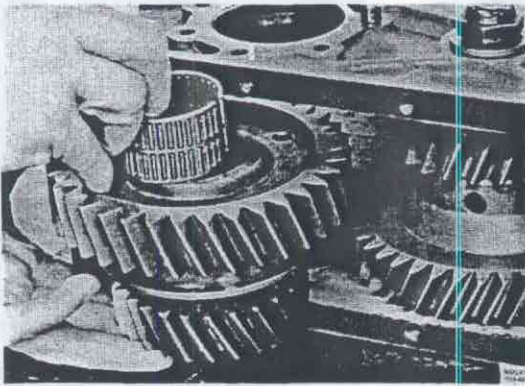

Fig. 43-189. Placing gears in aux. gearbox
4. Oil the needle bearing for the output shaft low-speed gear and place it on the gear. Place the synchronizing unit with gears in the auxiliary gearbox, Fig. 43-189.